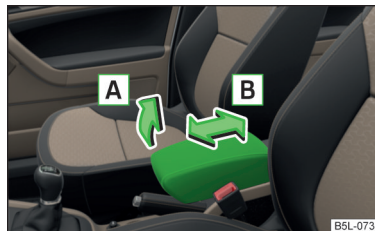

Fig. 65
➤ Lift the armrest in the direction of arrow **A** into one of the six locking positions » Fig. 65.
➤ Lift the armrest in the direction of arrow **A** until it stops » Fig. 65.
- › Move the cover into the desired position in the direction of the arrow **B** » Fig. 65.